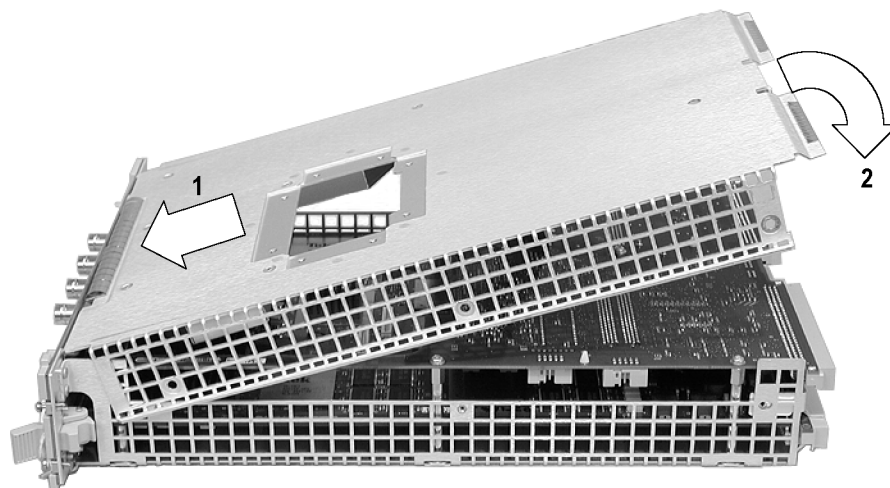

Figure 14: Installing the cover onto the chassis
2. Insert the cover at an angle (step 1) such that the front edge of the cover engages with the EMI gaskets on the back of the front panel. Then push the rear of the cover in place (step 2). (See Figure 14.)